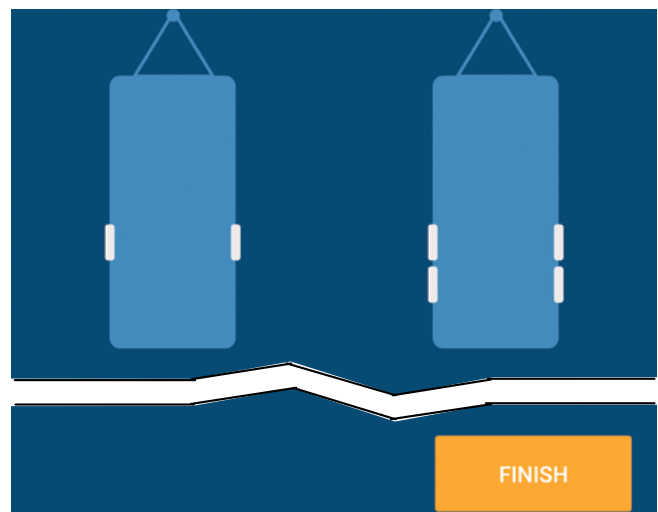

Fig.11
10. Select a vehicle layout (Fig.11) then tap FINISH.